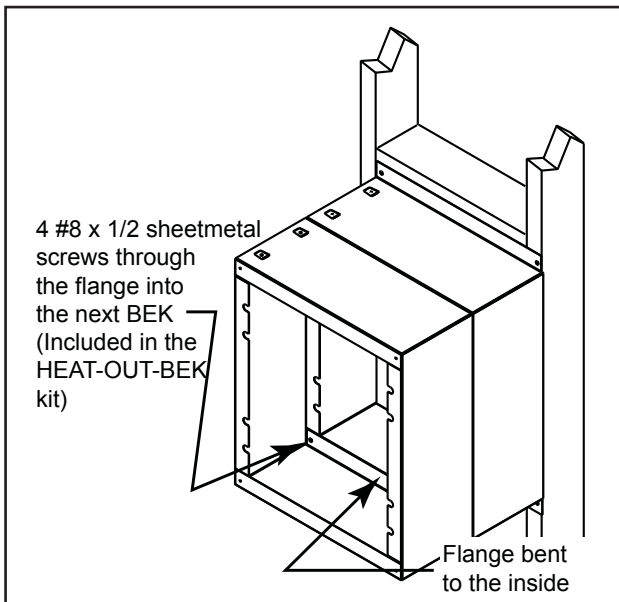

Figure 2.11 Stacking Boxes
- Bend the two outside flanges of the second box around to the inside of the box. See Figure 2.11.
- Secure the second box to the first using four #8 x 1/2 sheet metal screws included in the HEAT-OUT-BEK kit. See Figure 2.11.